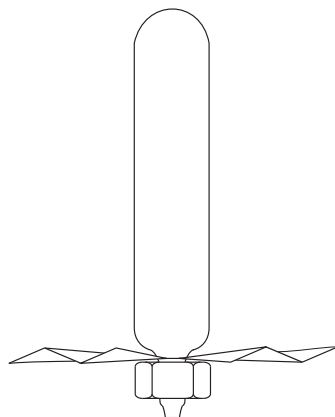

Figure 5.
- Finish making the diver according to Part A, steps 2–6 (see Figure 5).